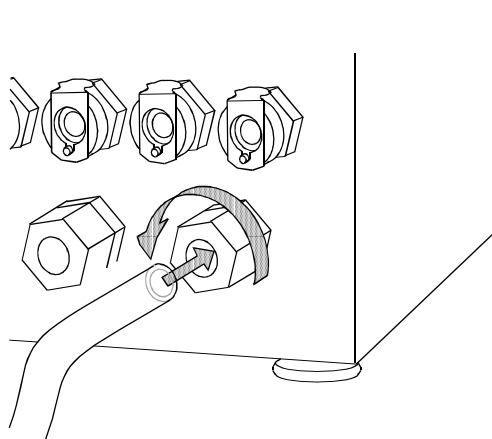

Figure 5 Loosen the Nut and Insert the Tube into Nut and Tighten
4. On the fittings **(J)** through **(O)**, loosen the nut until three threads are visible (*Fig. 5*).